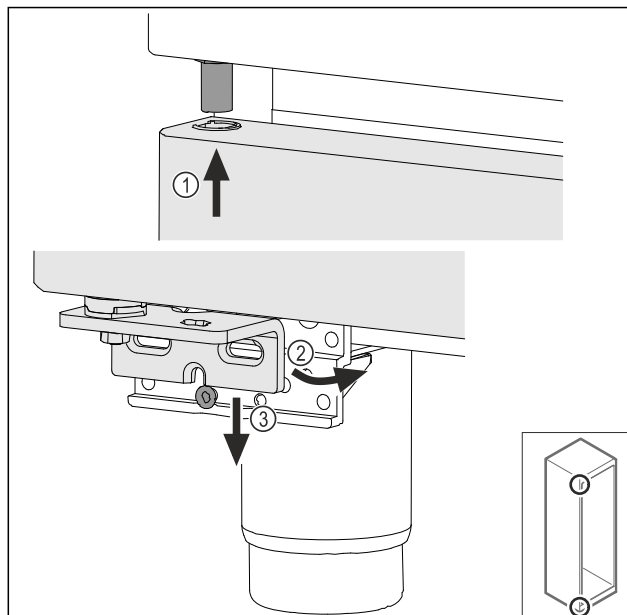

Fig. 47
- ▶ Insert the door slightly tilted at the top Fig. 47 (1), align the door straight Fig. 47 (2) and place it on the bottom of the swap bearing block screw Fig. 47 (3).